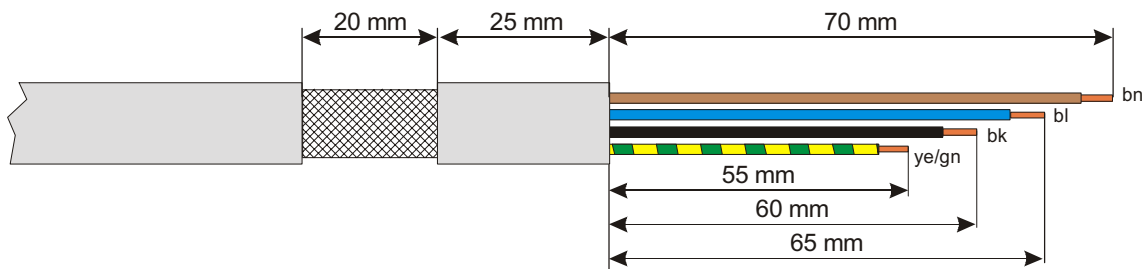

Fig. 2-6 Preparing the motor cable
2. Preparation the motor cable (fig. 2-6), and mount wire end ferrules on the device end of the motor cables.
4. Fastenthe connector to the front panel (item 24) with screws.